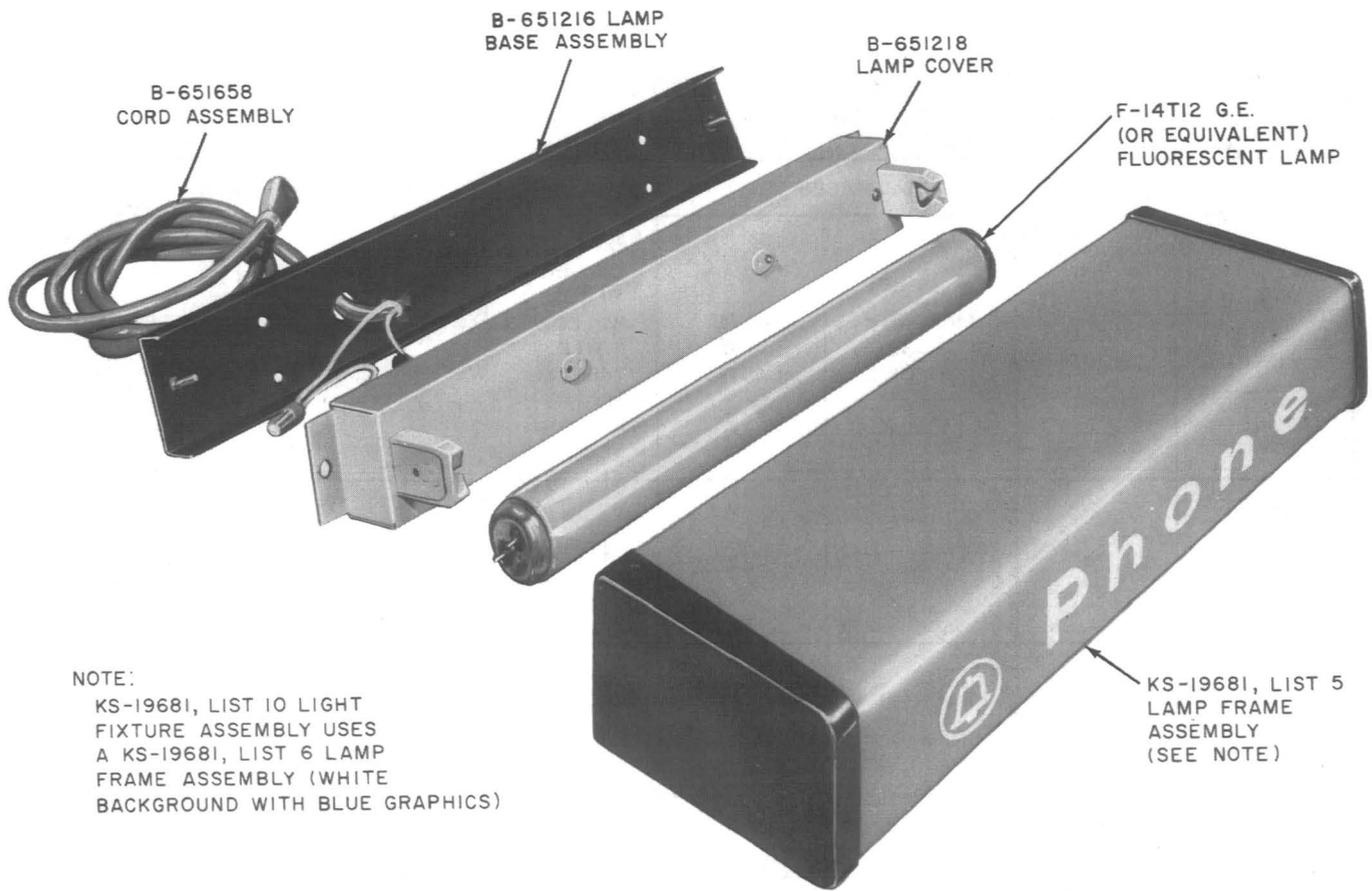

Fig. 7—KS-19681, List 9 Light Fixture Assembly
\*The KS-19681, L9 or L10 illuminated sign can be ordered separately. Refer to Fig. 7 for component parts.
3.19 The KS-19681, Lists 9 and 10 signs (Fig. 7) must be disassembled as shown and installed as follows: